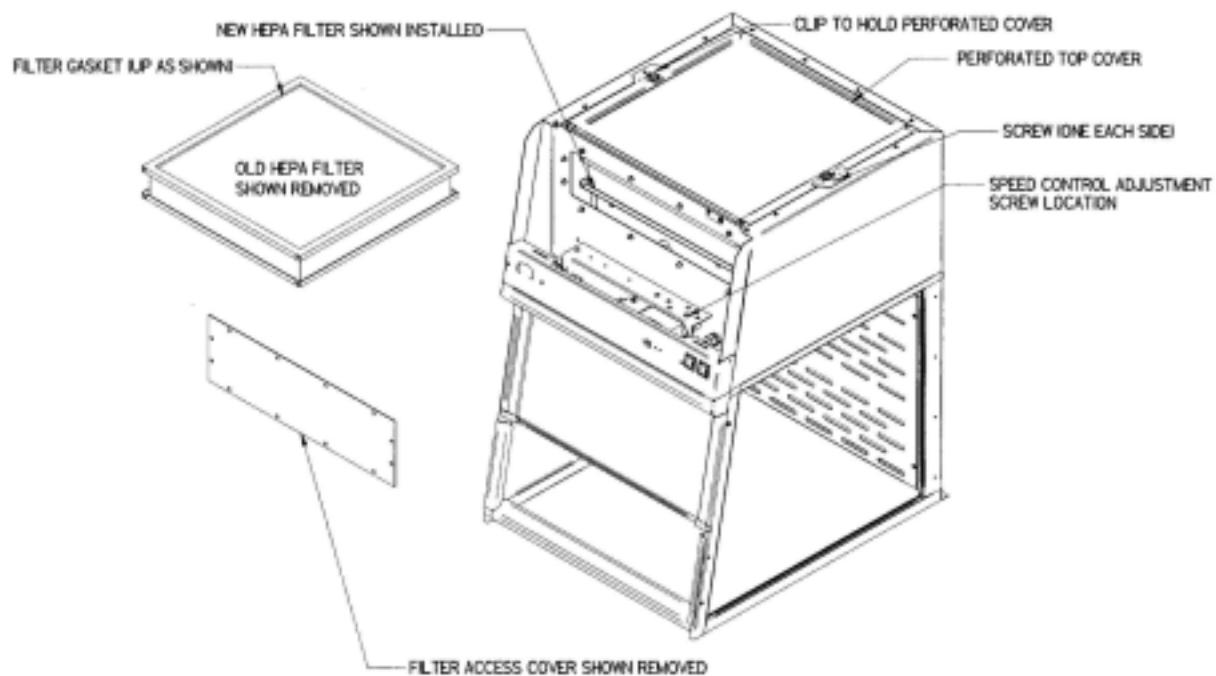

Figure 6-1
NOTE: The enclosure must be properly decontaminated before servicing the HEPA filter. Only a qualified certifier should service the HEPA filter. After the HEPA filter is replaced, the enclosure MUST be certified. See Figure 6-1.
After installing the new HEPA filter, the HEPA filter should be leak checked. This test is performed to determine the integrity of the HEPA filter, the filter housing, and the filter mounting frames. Leak testing is to be done by a qualified technician with calibrated equipment. Remove the top perforated exhaust cover by using a Phillips screwdriver to unfasten the (2) screws used to secure (2) clips. See Figure 6-1. The filter passes the leak test at .01% or better. Reference Leak Testing and Photometer scanning from the Institute of Environmental Services (IES-RP-CC001.3)
1. Remove the front panel by loosening the (2) Phillips screws on top that secure the front panel.
2. The speed control is located on the electrical subassembly located behind the switched control panel and below the front panel. See Figure 6-1.